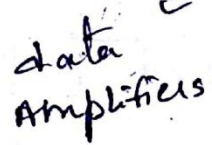

Fig.1.13 Minimum Mode 8086 System
- The general system organization is shown in Figure 1.13.